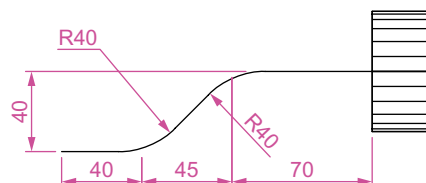

Fig. 18.2 First example – **Extrude faces tool** – first stages
3. In a **ViewCube/Front** view, construct the pline (Fig. 18.2). Mirror the pline to the other end of the cylinder.